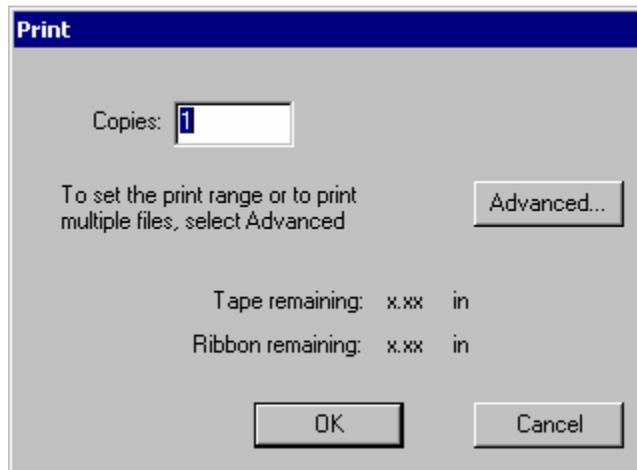

Figure 11-3. The Print screen.
1. With the label you want to print displayed in the **Editor** window, press **Print**. You'll see the **Print** screen (Figure 11-3).
1. When the label set is complete (see **Creating Sets of Labels** on page 6-22), choose **Print**. The **Print** screen displays, as shown in Figure 11-3.
1. When the label set is complete (see **Creating Sets of Labels** on page 6-22), or you have opened a file containing a label set, choose **Print**. The **Print** screen displays, as shown in Figure 11-3.
4. Choose **OK**. You'll see the **Print** screen (Figure 11-3) again.
1. With any file from the group you want to print open in the **Editor** window, press **Print**. You'll see the **Print** screen (Figure 11-3).
5. Choose **OK**. You'll see the **Print** screen (Figure 11-3).
4. Choose **OK**. You are returned to the **Print** screen (Figure 11-3).